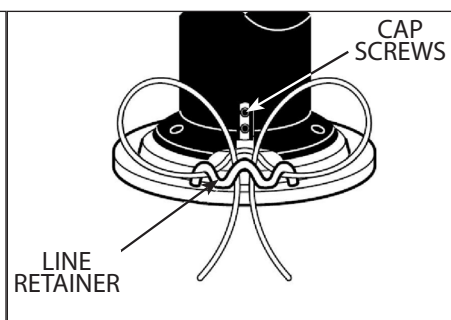

FIGURE 11: Threading Mower Line Through Center Hold.
4. Next, take the ends of the line, cross over the line retainer, and thread the ends through the center hold. **SEE FIGURE 11**